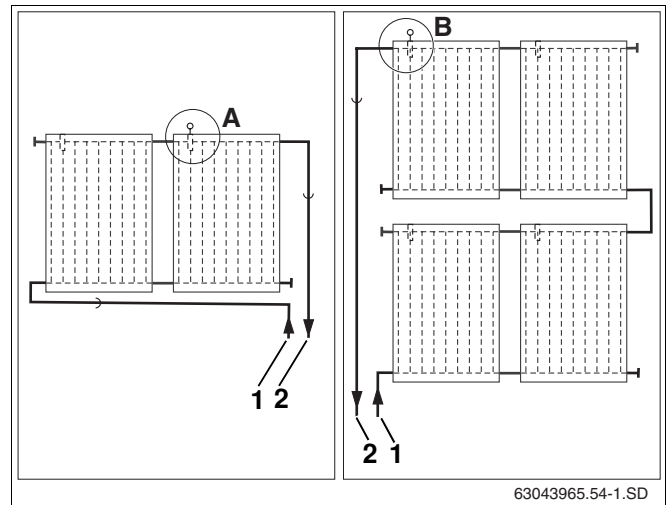

Fig. 32 Collector sensor installation location (schematic)
Observe the installation location for single or dual row collector systems (Fig. 32).
The collector sensor must be fitted in the collector nearest to the flow connection (Fig. 32, **Item 2**).
- Insertion point (Fig. 32, **Item A**) for single row collector systems with right-hand flow line.
- Insertion point (Fig. 32, **Item B**) for double row collector systems with left-hand flow line.